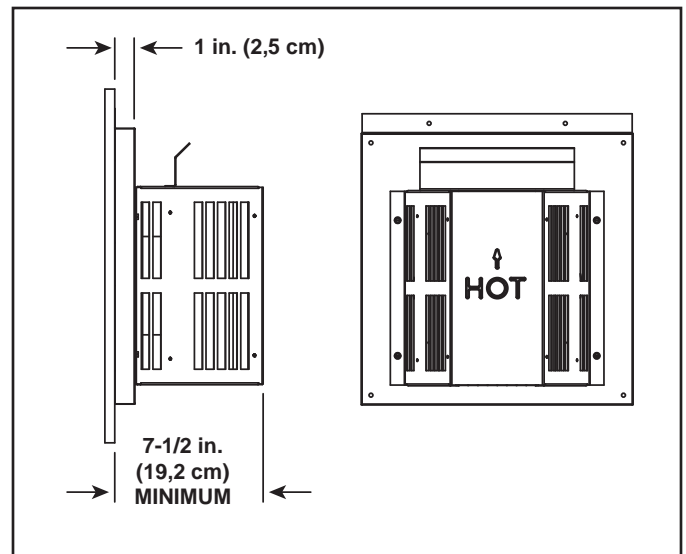

Figure 10.17 Termination Cap
- **DO NOT** remove the heat shields attached to the wall shield firestop and the horizontal termination cap (shown in Figure 10.17).